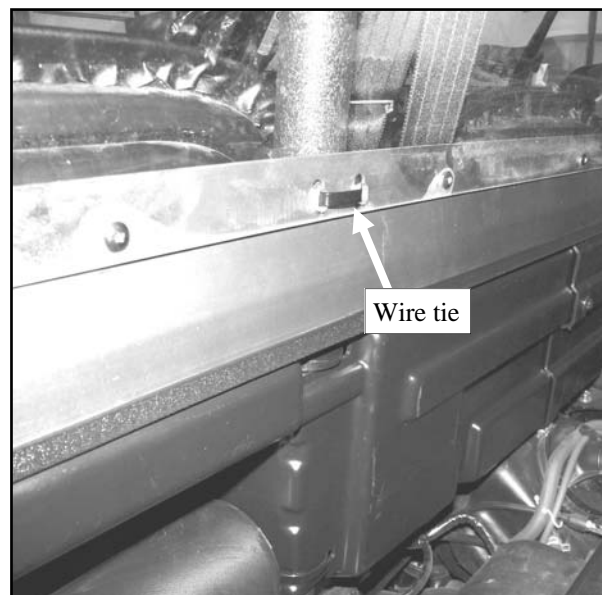

Fig. 9.4 (View of driver's side)
9.4 See fig. 9.4. Use two of the supplied wire ties to secure the bottom of the rear panel to the R.O.P.S. tubing as shown. One place on driver's side and one place on passenger's side.